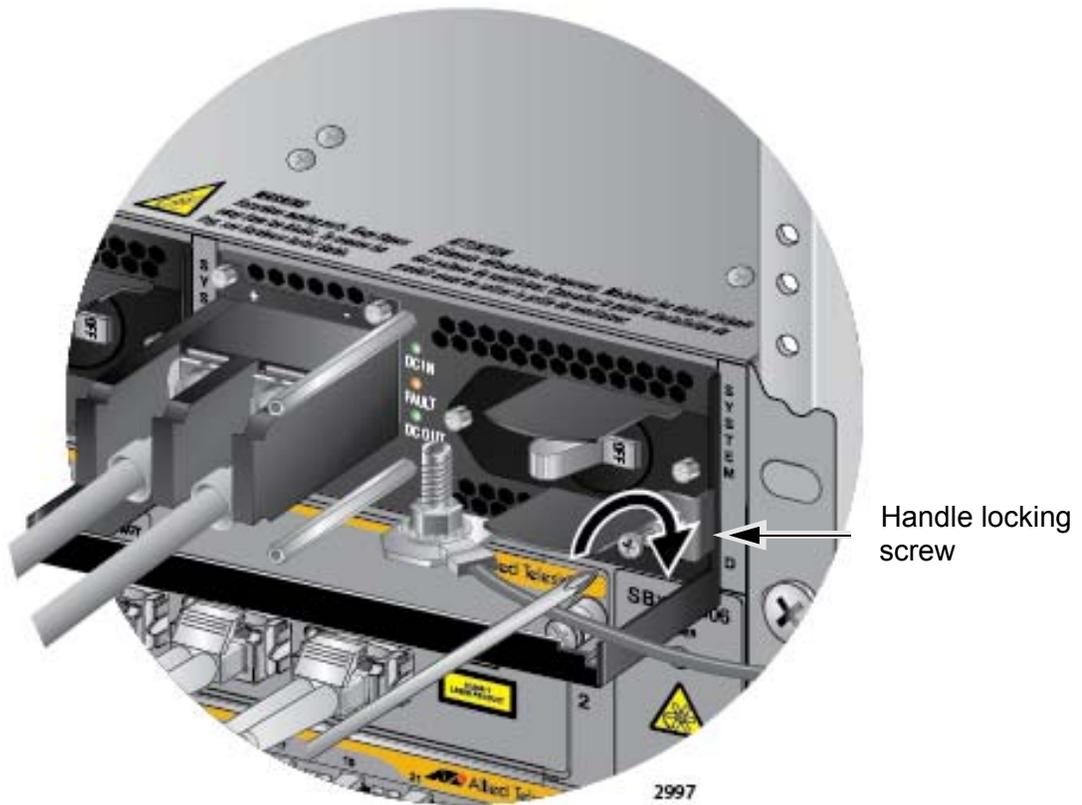

Figure 128. Tightening the Handle Locking Screw
8. With a #2 Phillips-head screwdriver, tighten the handle locking screw to secure the power supply to the chassis. See Figure 128 on page 172.